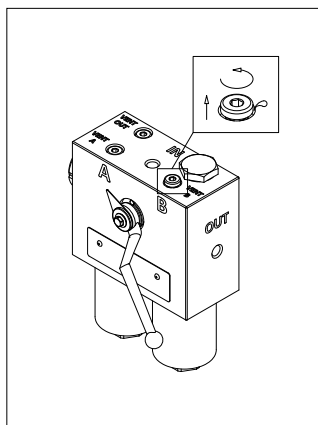

fig. 5
- (Fig. 5) Loose the breather plug on the WASTE SIDE "Vent A" or "Vent B" by a maximum of one turn